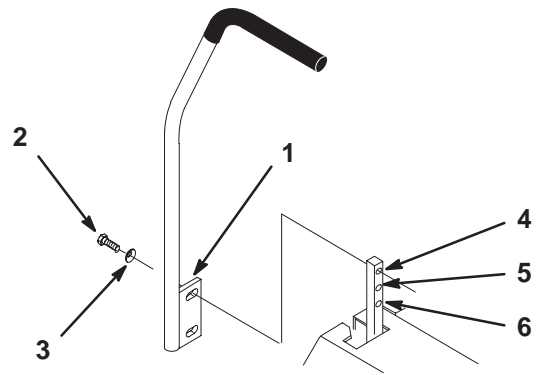

Figure 4
There are two positions to install the control levers, high and low. Install levers in the top and middle holes for the high position. Install levers in the middle and bottom holes for the low position (Fig. 4).
- Remove the 4 bolts (3/8 x 1 inch) and 4 spring washers (3/8 inch) which attach the motion control levers to the control arm shafts for shipping (Fig. 4).
- Place the levers (with the mounting plate toward the rear) on the outside of the control arm shaft and secure with 4 bolts (3/8 x 1 inch) and 4 spring washers (3/8 in.) (Fig. 4).
- Align the front/rear position of the levers, with each other, in the neutral position. Loosen hardware and adjustment by sliding/tilting the lever(s) forward or backward until properly aligned (Fig. 4).